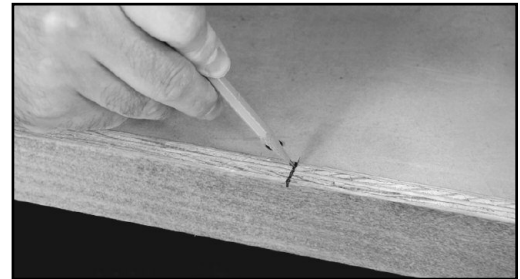

Fig. 01
3. Mark a centerline on the front edge of the cabinet bottom (Fig. 01).